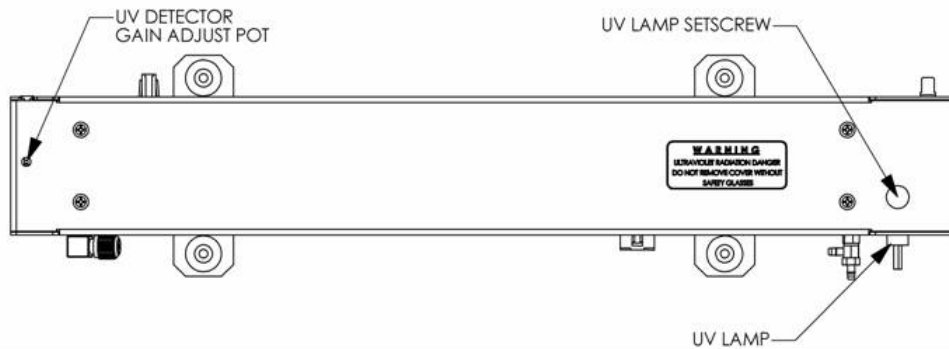

Figure 7-3: Photometer – Location of UV Detector Gain Adjustment & UV Lamp Set Screw
4. Locate the **UV DETECTOR GAIN ADJUST POT** on the photometer assembly (see Figure 7-3).
- Locate the UV lamp at the rear of the optical bench assembly (see Figure 7-3)
- Turn the UV detector gain adjustment pot (See Figure 7-3) clockwise to its minimum value. The pot should click softly when the limit is reached.